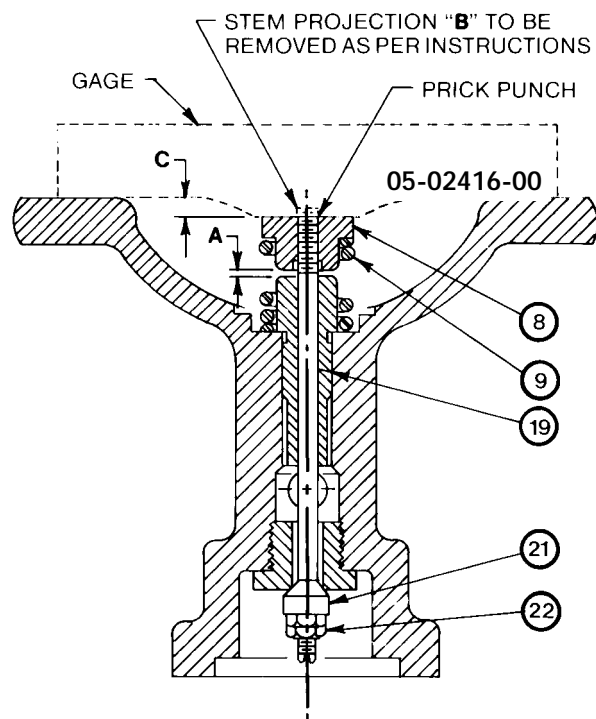

FIGURE 1 - TRAVEL SETTING
- 3 - Secure disc (21) to stem (19) with a stem nut (22). Insert this assembly into pilot body (omit valve spring).
- 5 - Screw pusher plate (8) on stem (19). Holding disc against its seat, adjust the pusher plate so that dimension C = 11/64" (See Figure 1). A gage (part number 05-02416-00) is supplied with each repair kit.